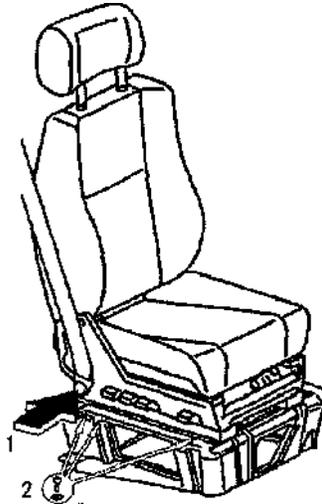

Fig 2, Front seat removal (passenger seat shown)
2. Remove front seats. To do so, remove the black plastic cap (1) from seat belt bolt. Using a 17 mm socket, remove bolt from seat belt on seat frame. **See fig.2.**
3. Move both seats towards the front and back to gain access to the sliding rail bolts (2). Remove the bolts using a 6 mm Alien wrench. **See fig.2.** If the passenger seat is non-adjustable (standard seat), use a 13 mm socket to remove the seat base bolts. Unplug the seat belt electrical connector from behind the driver's seat. The front seats can now be removed from the vehicle.